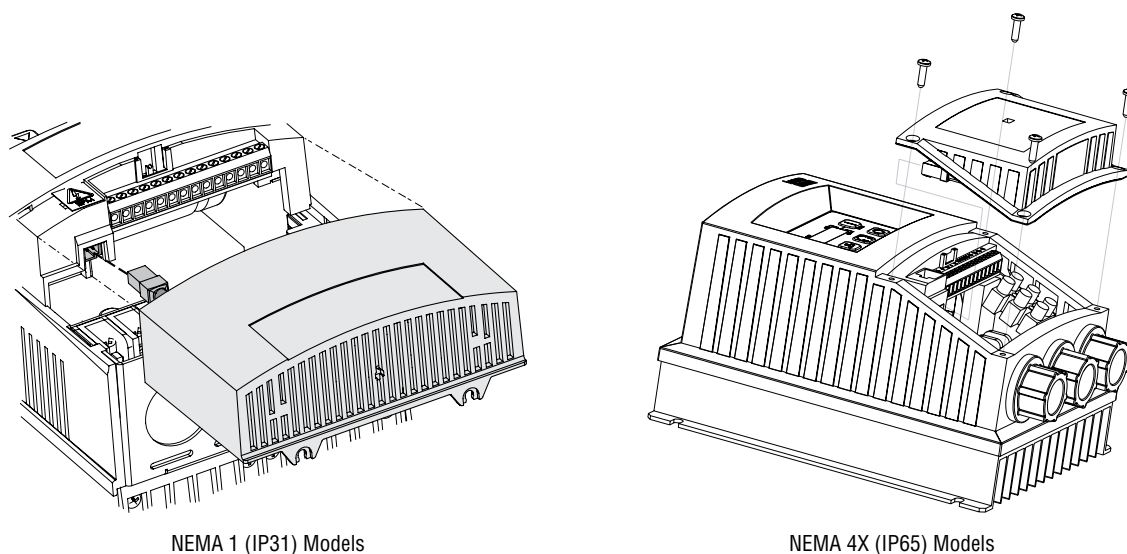

Figure 3: Re-Installing the SMV Terminal Cover
4. Align terminal cover for refitting, connect the module umbilical cord to the drive then close the cover and secure as shown in Figure 3.